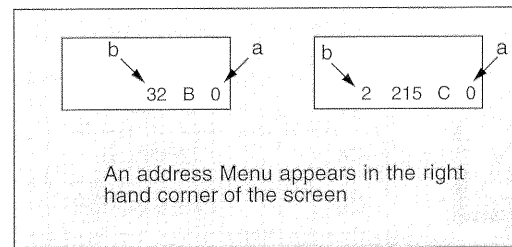

Figure 10. **Serviceman Mode Menu Adjustments.**
Note: Only the applicable settings for the Receiver serviced will be available (See a in Fig. 10).
1. Press **Channel Up/Down** on the **Remote Control** to select one of the available Service Adjustments (a in Fig. 10).
Note: Write Down the original value set (b in Fig. 10) for each address before modifying anything. It is easy to erroneously adjust the wrong item.
2. Press **Volume Up/Down** on the **Remote Control** to adjust the level of the selected Service Adjustment (b in Fig. 10).
1. Press Channel Up/Down on the Remote Control to select one of the available Service Adjustments (a in Fig. 10).
2. Press Volume Up/Down on the Remote Control to adjust the level of the selected Service Adjustment (b in Fig. 10).